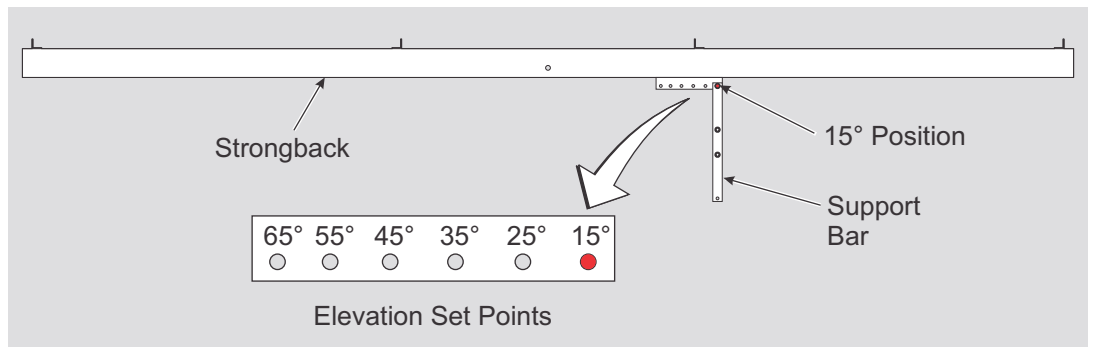

Figure 2-1: Positioning Support Bar
- A. Remove the Support Bar from the Strongback and re-install in the 15° elevation set point. Secure with the 1/2" hardware and finger tighten. (See Figure 2-1)